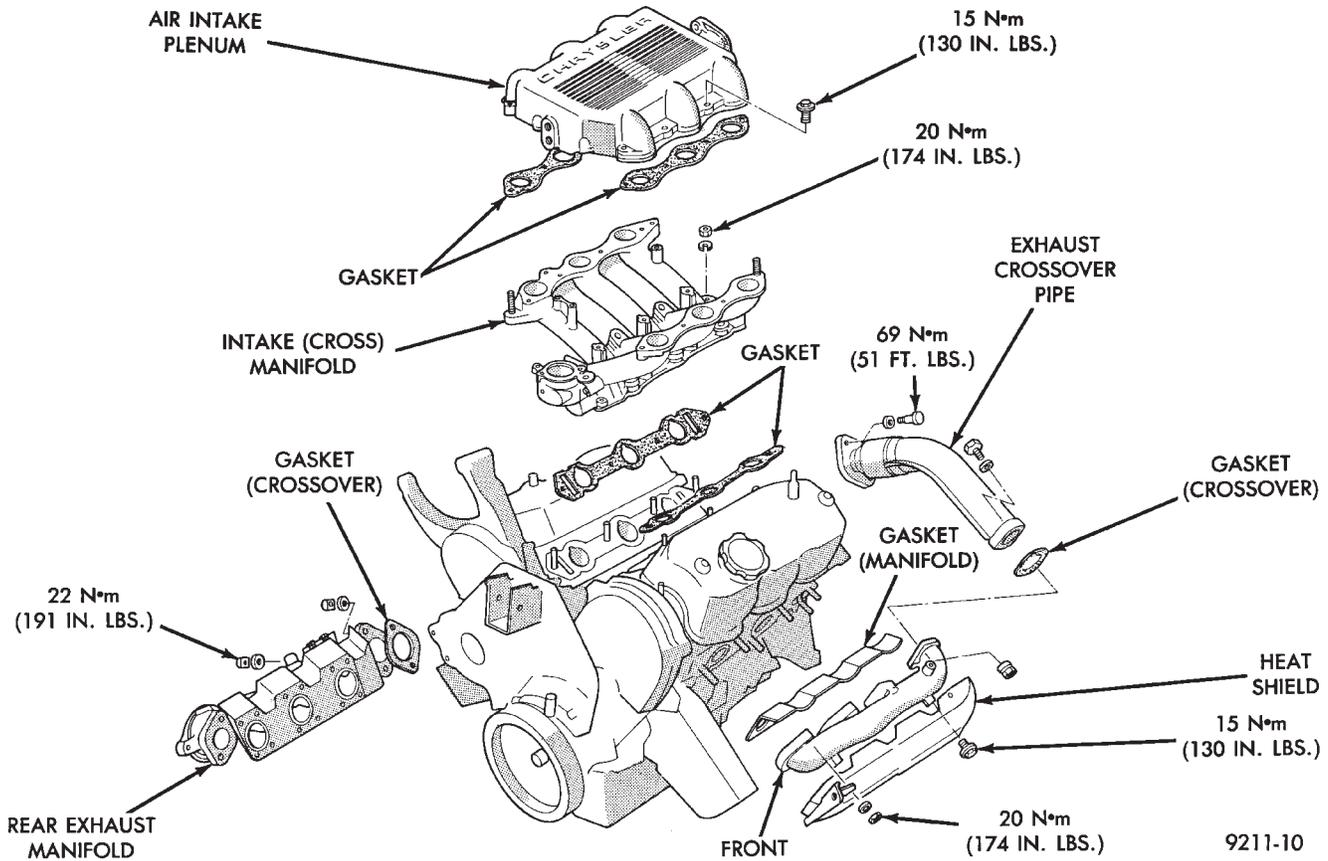

Fig. 2 Intake and Exhaust Manifolds—3.0L Engine
The intake system has a large air intake plenum of aluminum alloy and a cross type intake manifold (Fig. 2).
The exhaust manifolds are made of ductile cast iron with the front bank and rear bank independent of each other. The exhaust from the front bank exhaust manifold is led through on exhaust crossover pipe to be combined with the rear bank exhaust at the exhaust outlet to the exhaust pipe (Fig. 2).
(18) Remove fuel rail attaching bolts and lift fuel rail assembly from intake manifold.
(19) Separate radiator hose from thermostat housing and heater hose from heater pipe.
(20) Remove (8) nut and washer assemblies and remove intake manifold (Fig. 2).